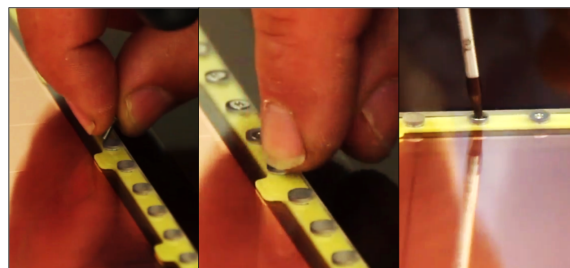

Figure 82: Closing the internal frame (1).
Step 6: In order to hold the layers of internal frames together, place the M2x6mm screws provided with the GE1/1 kit in the dedicated holes of the Plexiglas cover (Fig. 82). Tighten these screws with a manual X6 screwdriver without stressing too much against the thin pieces of frame.